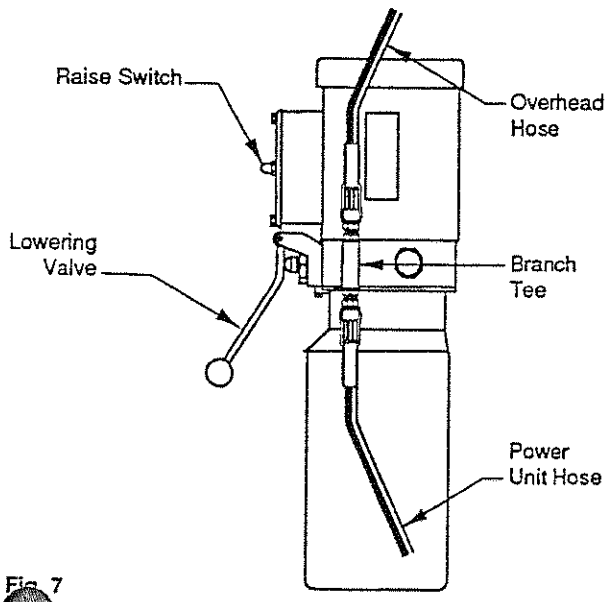
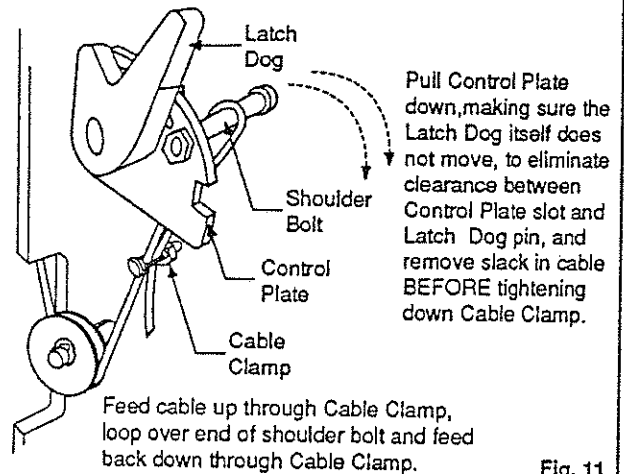
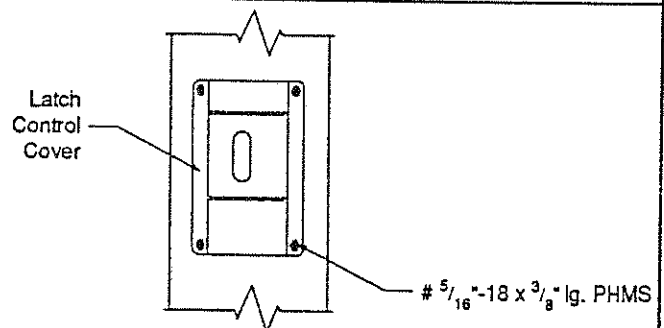

Fig. 7
Fig. 11
Fig. 12
9. Power Unit: First install (1) star washer onto one of the (4)  $\frac{5}{16}$ " x  $\frac{3}{4}$ " Lg. bolts. **This is very important for grounding.** Put the (4)  $\frac{5}{16}$ " x  $\frac{3}{4}$ " lg. bolts thru holes in power unit bracket using push-nuts to hold in place. Mount unit with motor up to column bracket and install lock washers and nuts. Install and hand tighten Branch Tee to pump until O-ring is seated. Then tighten locknut to 35-40 ft.-lbs, and connect supply hoses to Tee, Fig. 7.
back down through the clamp. Next, pull the Control Plate down, Fig. 11, to eliminate any clearance between the Control Plate slot and the Latch Dog pin (making sure the Latch Dog itself does not move), also see Fig.10, and pull cable snug to remove any excessive slack and wrench tighten clamp, Fig. 11. When raising, listen to latches to be sure that both latch dogs fall into latch slots. If they do not, Loosen clamp and adjust tension as necessary. When latches are adjusted to desired tension, hold clamp with pliers and tighten clamp securely. See Fig.12 & "Locking Latch Adjustments" below for further adjustment procedures. Recheck, make sure cable is properly routed through sheaves. Then install left latch cover Fig. 12.
11. **Latch Cable:** Lower both carriages down so that the top of each carriage is below the latch cable sheave slot. Slip loop end of cable over end of shoulder bolt on right side latch control plate, Fig. 9. Feed the other end of the cable through the slot making sure that the cable is running under the bottom side of the sheave, Fig. 9, and inside the right column. Route cable inside column and over the top of the upper sheave, Fig. 10. Continue routing cable to the left column upper sheave, Fig. 10 & Fig.7 (C), making sure the cable goes over the top of the upper left column sheave. Note how cable goes between the equalizer cable sheaves. Bring the cable down inside the left column and feed the end of the cable through the sheave slot so that the cable is now back outside the column, Fig. 11. Route cable under the bottom side of the sheave. At this point you **MUST** install the right column latch cover Fig.12, and latch Handle Fig.9, then continue. Insert cable up through cable clamp, loop around shoulder bolt and
4. Make necessary adjustments if required, see Fig. 11, recheck latch function.
**14. Oil Filling & Bleeding:** Use Dexron II ATF. Remove fill-breather cap and fill vent screw, Fig. 6. Pour in (8) quarts of fluid. Start unit, raise lift about 2 ft. Open cylinder bleeders approx. 2 turns, Fig. 7. Close when fluid streams. Fully lower lift. Add more fluid until it comes out fill vent hole. System capacity is (13) quarts. Replace fill vent screw and fill-breather.